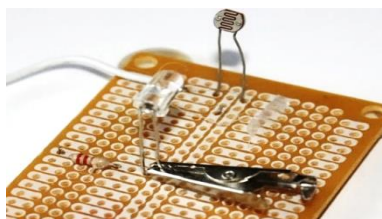

Fig. 3.32 A crocodile clip for heat sink
- Transistors and some other components can be damaged by heat when soldering. A crocodile clip can be used as a heat sink to protect these components as shown in Figure 3.32.